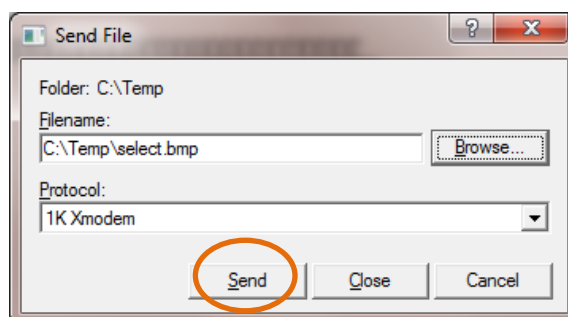

Figure D-7: Serial File Transfer Screen
8. A pop-up box for sending files will be shown (Figure D-7).